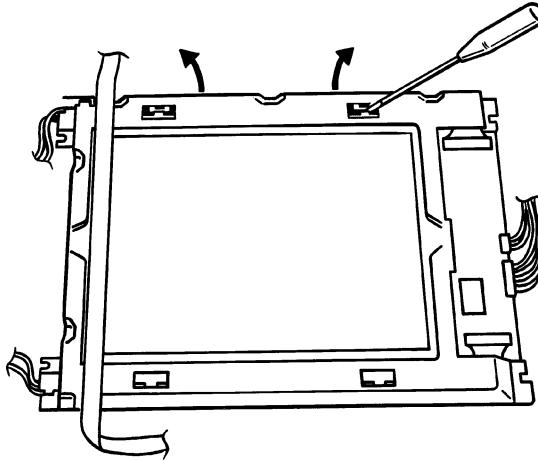

Figure A1.2.3e Backlighting unit removal
- g Referring to figure A1.2.3e, turn the unit over, and using a small screwdriver or similar, release the backlight securing plate clamps. The old backlighting unit can now be discarded.